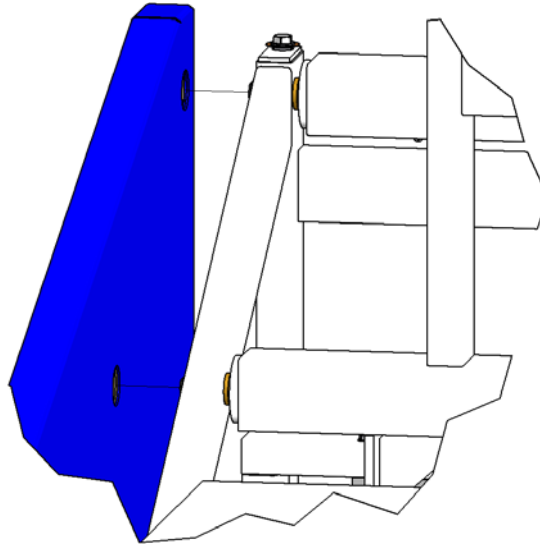

Figure 9-10: Align holes in side pads with hubs on base frame.
- a. Locate the side pads by aligning the holes on the inside faces of the pads with the hubs on the sides PBEL base frame (Figure 9-10).
- a. Locate the side pads by aligning the holes on the inside faces of the pads with the hubs on the sides PBEL base frame (Figure 9-10). **HINT:** Place the front pad against the front of the frame to ensure that the side pads are located correctly, front-to-back.